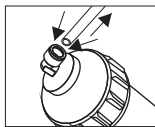

Fig. 3
- 3) Symmetrically press quick connector's flange and pull plastic tubing out (Fig. 3).